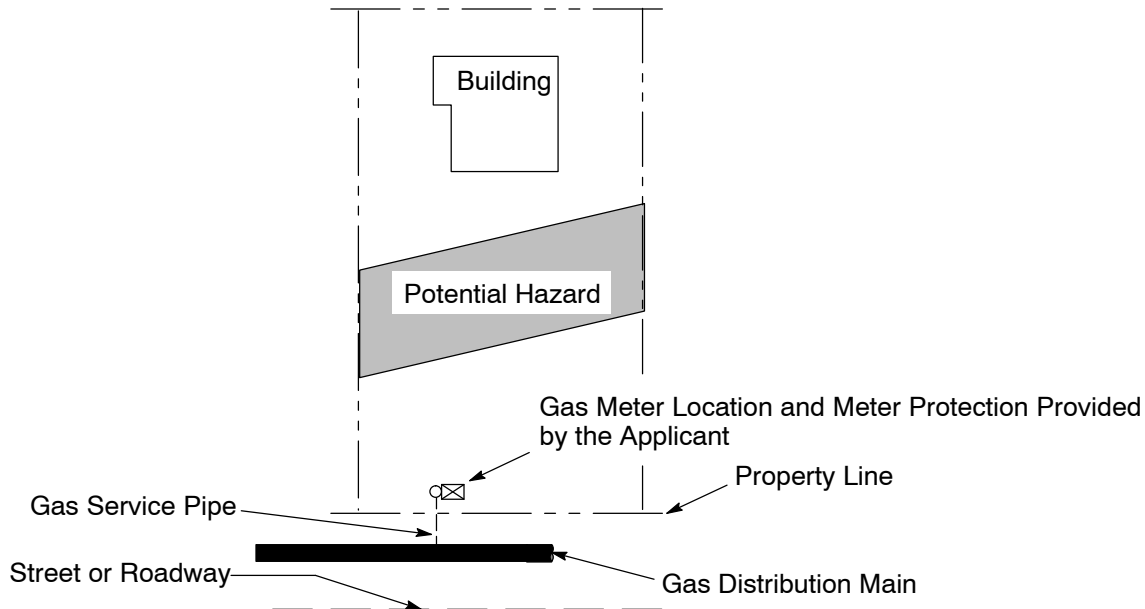

Figure 9
- (b) At the customer's property line if a location exists where the meter set can be properly protected from vandalism and/or damage by vehicles. (Figure 9)
(2) Meter Set Accessibility